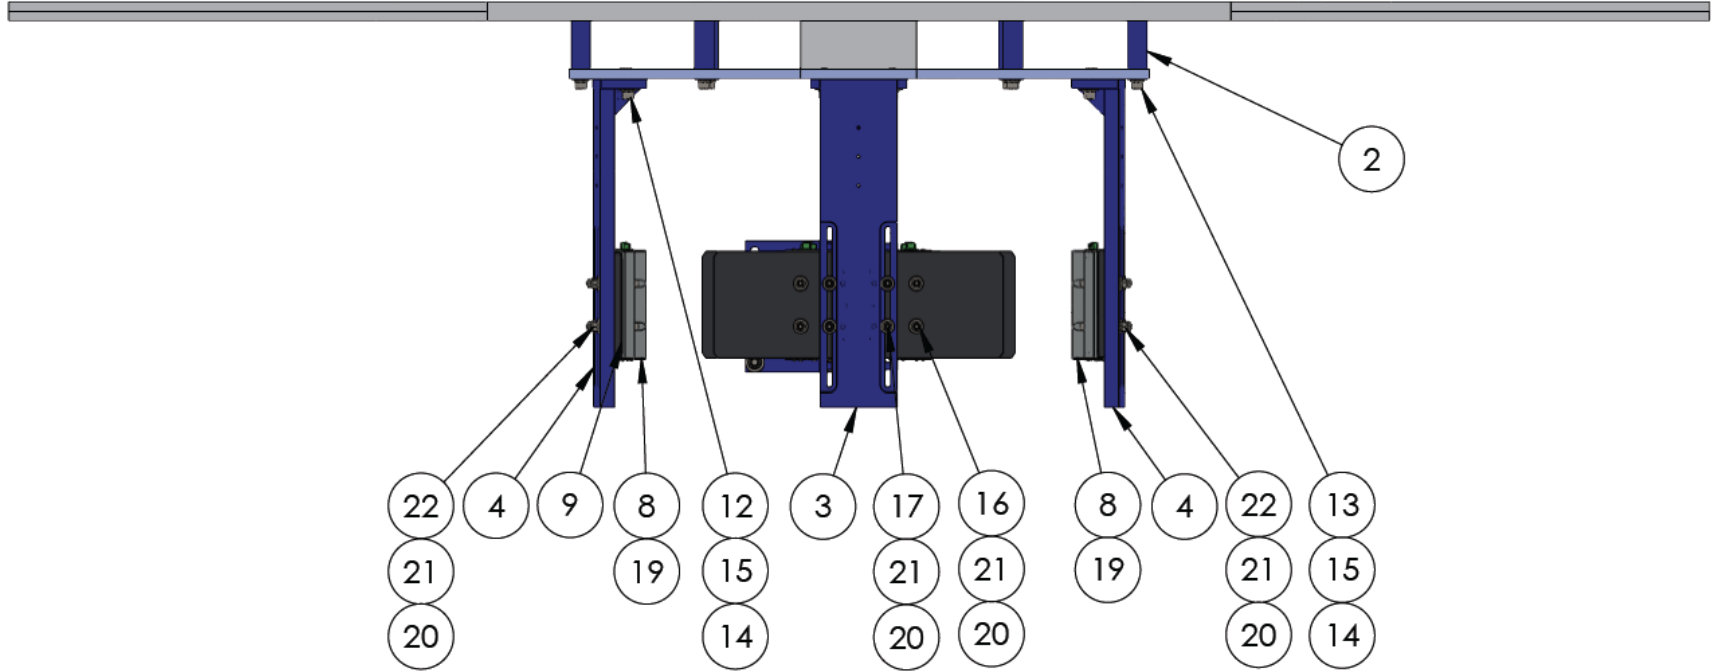

Figure 3
2. Install the adapter plate (item1) using the instructions below in Detail A. See Table 1 and Figures 3 and 4 for part identification.
3. Install the mounting brackets with hardware (items 2 through item 19) as shown below.
4. Note that there are two TL102ALs in a six lamp configuration and four TL102ALs in an eight lamp configuration. The TL102AL has a Fresnel lens and the LEDs appear blurred. The TL102A does not have a Fresnel lens and the LEDs are clearly visible. The model numbers are also marked on the subassembly. Populate item 2, the top and bottom assemblies, with TL102A/Ls before installing them into the system.